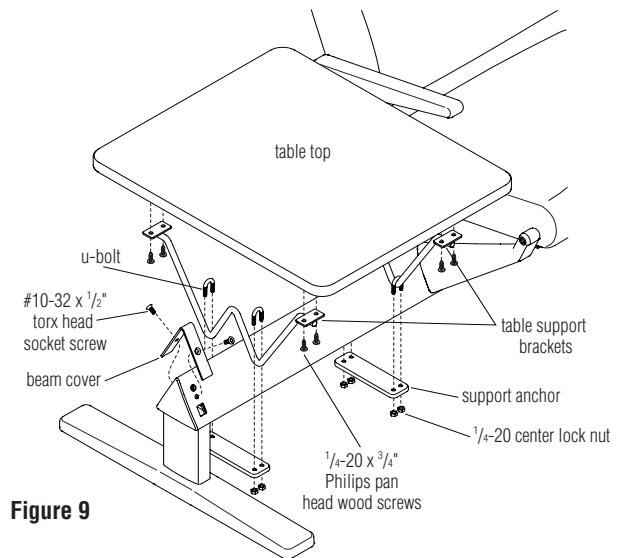

Figure 9
1. Attach the table top to the table support brackets with eight  $\frac{1}{4}$ -20 x  $\frac{3}{4}$ " Phillips pan head wood screws. Set the assembly in the desired table location on the beam. Hang the u-bolts over the table support brackets near the bottom of the "w" form. Position the support anchors under the beam weldment, aligning the holes in the anchors with the u-bolts. Insert the u-bolt ends into the holes and thread on the  $\frac{1}{4}$ -20 centerlock nuts. Tighten to secure (Figure 9). Proper nut tension is achieved when table top feels secure. DO NOT OVERTIGHTEN!
2. For in-line tables mounted at the end of a beam, place a beam cover over the hole set at the end of the beam weldment, aligning the holes in the beam cover to the center hole in the beam weldment. Thread two #10-32 x  $\frac{1}{2}$ " torx head screws through the beam cover, beam weldment and into the endcap. Hold the endcap in place while tightening the screws (Figure 9).